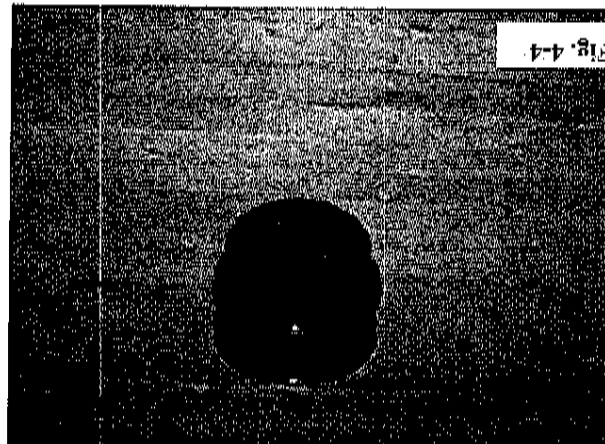

Fig. 4-4
- (1) The 3.25" ID side of the hump hose contains the part number and is the side that should be connected to the inlet pipe (Fig. 4-4).